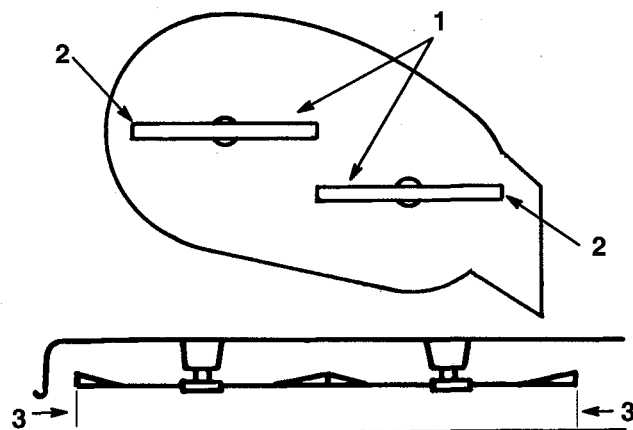

Figure 48
4. Carefully rotate blade(s) side to side (Fig. 48). Measure between the outside cutting edges and the flat surface (Fig. 48). If both measurements are not within 3/16" (4.762mm), an adjustment is required; refer to steps 5 and 6.